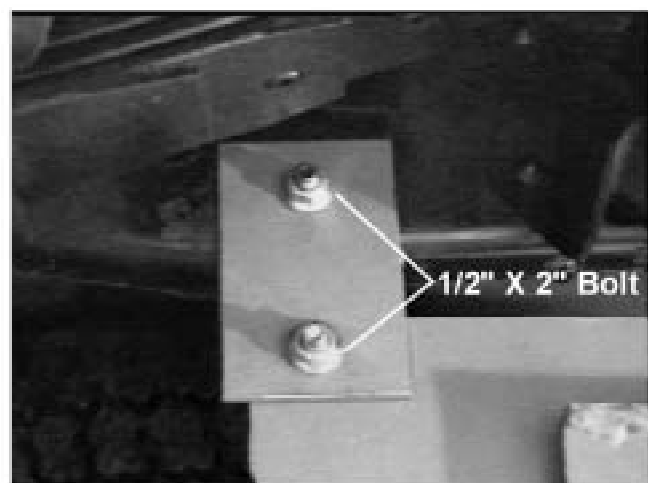

Figure 13
5. Install two 1/2" x 2" grade 5 bolts and 1/2" flat washers from inside vehicle frame through frame and front brackets. Retain with 1/2" flat washer and 1/2" locknut. See Figure 13.